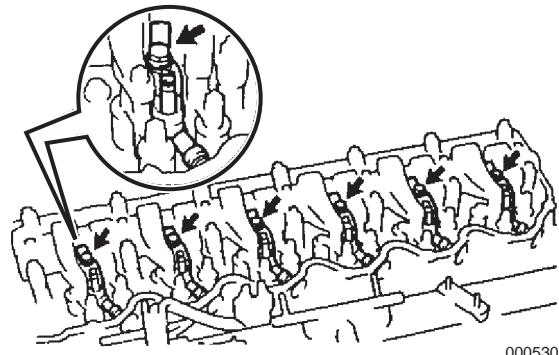

Figure 6-42
3. Install the fuel injection nozzle to the cylinder head, using the nozzle holder clamp, washer and bolt **(Figure 6-42)**. Torque to: 255 kgf·cm, 25.01 N·m (18.4 lb·ft)